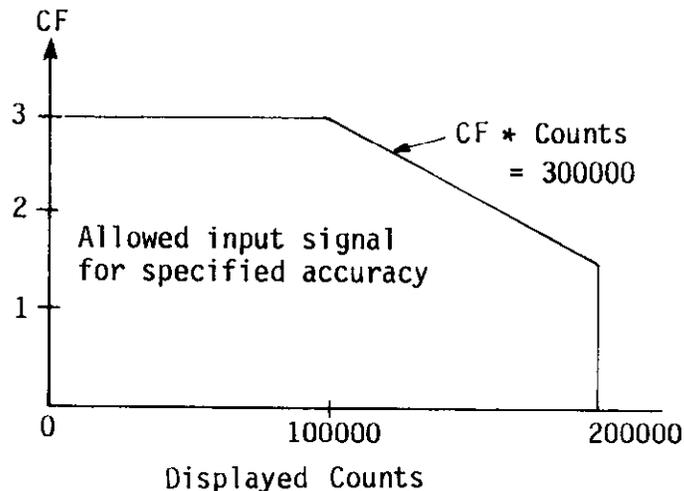

Figure 2-1. Crest Factor vs. Displayed Counts
- E. For specified accuracy (pulse widths  $\geq 10\mu\text{s}$ , peak voltage  $\leq 1.5 \times$  full scale) Figure 2-1 shows the allowable input signal vs. crest factor. The figure illustrates that for a crest factor of three the displayed reading must be less than 100,000 counts (1V on the 2V range). So long as the maximum input is not exceeded no damage will result in crest factors exceeding that shown in Figure 2-1, but accuracy will slowly degrade (For  $\text{CF} > 3$  but  $\leq 10$  typical accuracy is degraded by  $(\text{CF}-3) \times 0.36\%$  and peak signal must be less than  $5 \times$  full scale for that range).
- G. For specified accuracy (pulse widths  $\geq 10\mu\text{s}$ , peak voltage  $\leq 1.5 \times$  full scale) Figure 2-1 shows the allowable input signal vs. crest factor. The figure illustrates that for a crest factor of three the displayed reading must be less than 100,000 counts (1V on the 2V range). So long as the maximum input is not exceeded no damage will result in crest factors exceeding that shown in Figure 2-1, but accuracy will slowly degrade (For CF  $> 3$  but  $\leq 10$  typical accuracy is degraded by  $(\text{CF}-3) \times 0.36\%$  and peak signal must be less than 5 x full scale for that range).